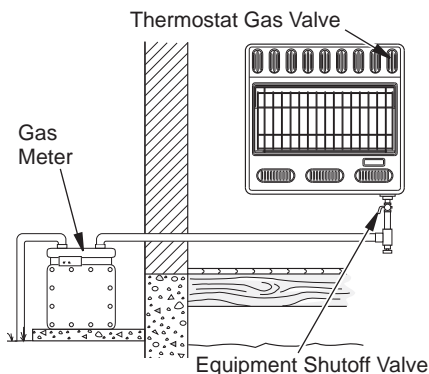
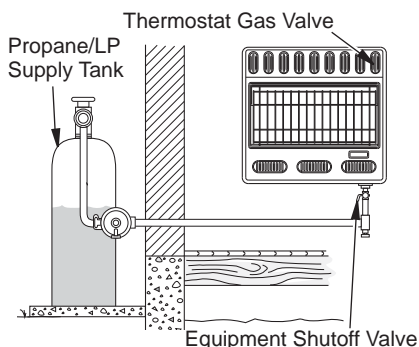

Figure 17 - Checking Gas Joints for Natural Gas
Figure 18 - Checking Gas Joints for Propane/LP Gas
3. Check all joints from gas meter for natural gas (see Figure 17, page 14) or propane/LP supply tank for propane/LP gas, to equipment shutoff valve (see Figure 18, page 14). Apply a noncorrosive leak detection fluid to all joints. Bubbles forming show a leak.
4. Check all joints from equipment shutoff valve to thermostat gas valve (see Figure 17 or 18). Apply a noncorrosive leak detection fluid to all joints. Bubbles forming show a leak.